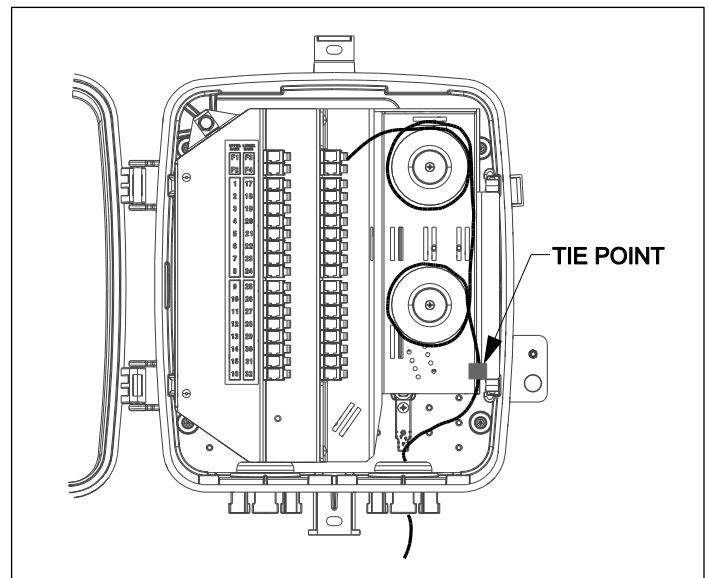

Figure 9 Route Drop Fiber to Adapter
5. Connect the cables to the adapters on the drop side of the adapter bulkhead (Figure 9).